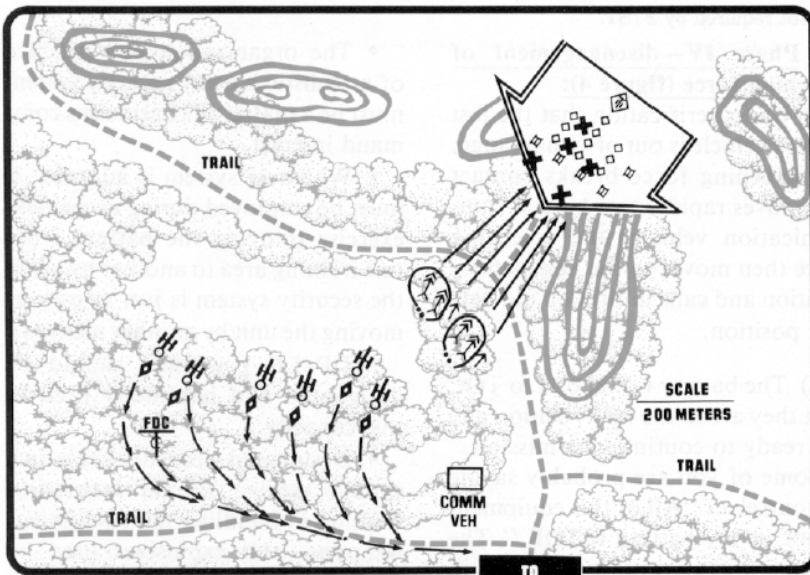

Figure 3. Movement of screening force.
• **Phase III—screening force movement (figure 3):**